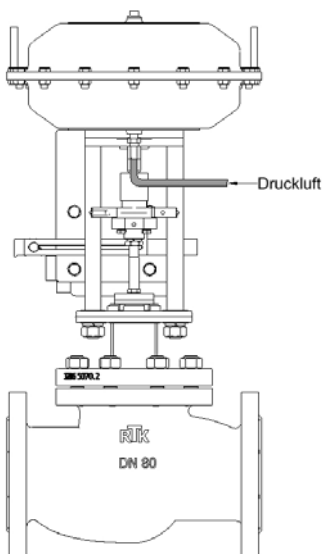

Figure 7- spring closing
6. Connect the drive to a compressed air supply. Move the drive screw to the 50% stroke position. See figure 7